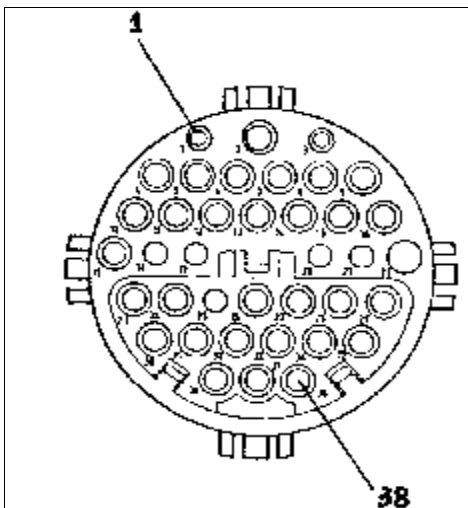

Fig.3.3
3. PIN definition for 38-pin diagnostic socket (Fig.3.3)